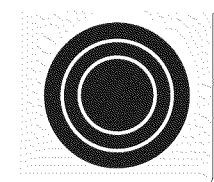

Fig. 5
Both the 30" and 36" cooktops are equipped with "Triple" surface radiant elements located as shown in Figs. 1 & 2. A touch key pad on the element controls is used to select one of the 3 positions of the element. Indicator lights on the control panel are used to indicate which coil of the triple radiant element will heat. One indicator light on indicates that only the INNER coil will heat (Fig. 3). Two indicator lights on indicate that both INNER and MIDDLE coils will heat (Fig. 4). Three indicator lights on indicate that all 3 portions of the element will heat (Fig. 5). You may switch from either of these settings at any time during cooking.
4. Select the INNER (Fig. 3), MIDDLE (Fig. 4) or ALL 3 element (Fig. 5) to heat by touching the  key pad.